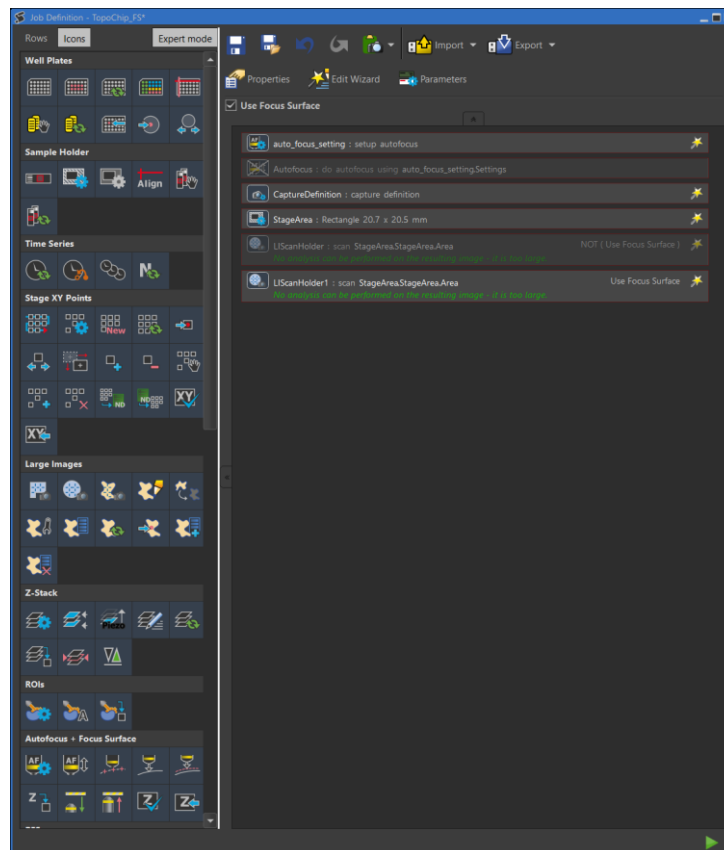

Figure 3: TopoChip Jobs protocol overview
8. JOBS is a user interface which specifies the acquisition settings of the TopoChip by creating a set of modules. Drag and drop modules to achieve specific sequence of your desire as you see in figure 3. In case action sequence was set up in a wrong way (auto focus module is not set or set AFTER the imaging channel is selected), script will not be executed.
10. Double click on *TopoChip_FS* which opens a window with all the mandatory modules needed to perform an imaging job for the TopoChip, which you see in the Figure 3